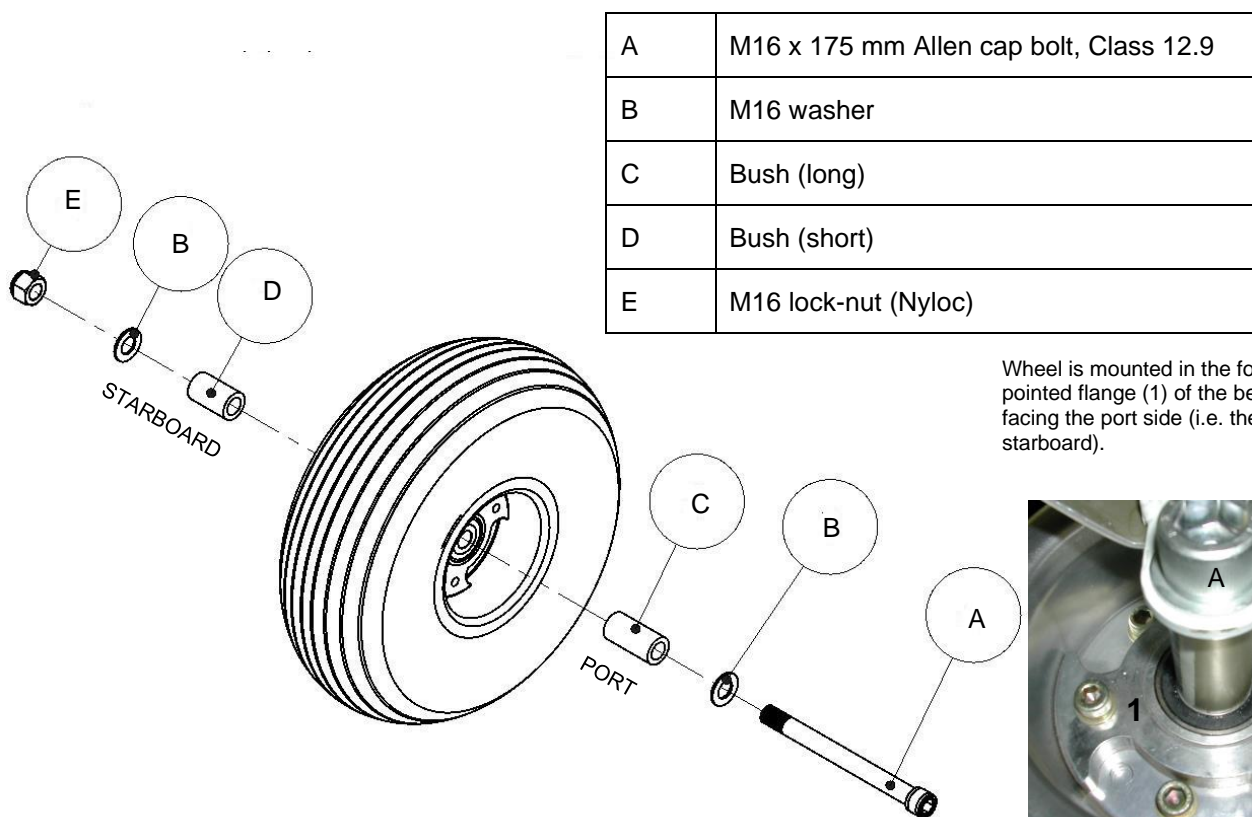

Figure 43: Nose wheel installation.
- Observe the correct placement of washers and bushes and the correct orientation of the nose wheel (refer to Figure 43). Note that the lock-nut faces the starboard side of the aircraft.